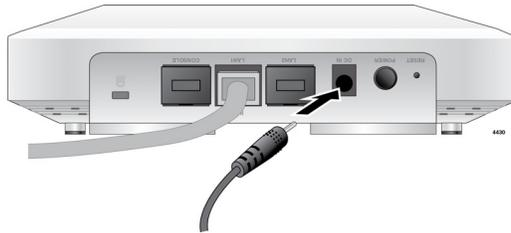

Figure 14. Connecting the External AC/DC Power Adapter Cable
2. Plug the Power Adapter DC plug into the DC-IN jack on the access point. Refer to Figure 14.